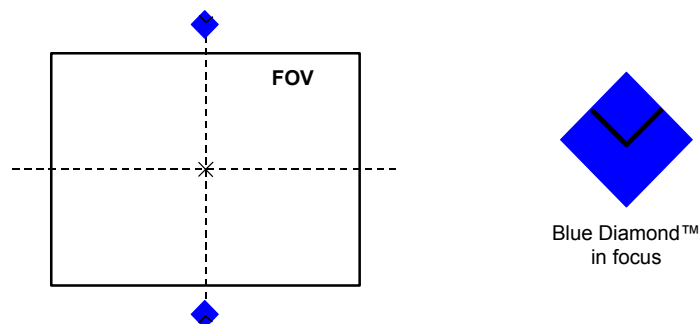

Figure 7 – Focus Function Using Blue Diamonds™
- a. Adjust the Focus ring towards the "Near position" until the Blue Diamonds™ are perfectly in focus, see Figure 7.